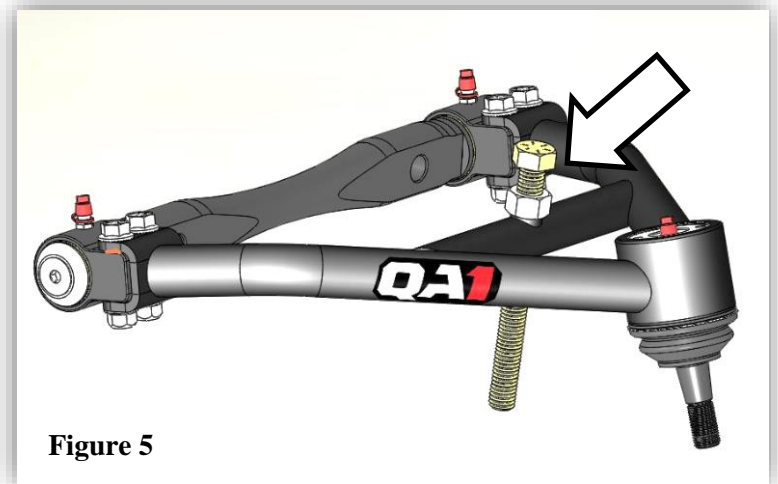

Figure 5
7. Thread the 1/2" x 5" bolt with jam nut into the control arm from the top. **(Figure 5)**